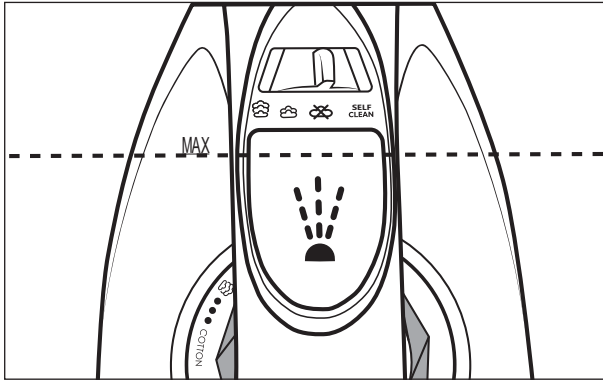

Fig. 1
- 3) Use the measuring cup **11** to fill the water tank  **2** up to no more than the **MAX** marking (see fig. 1).